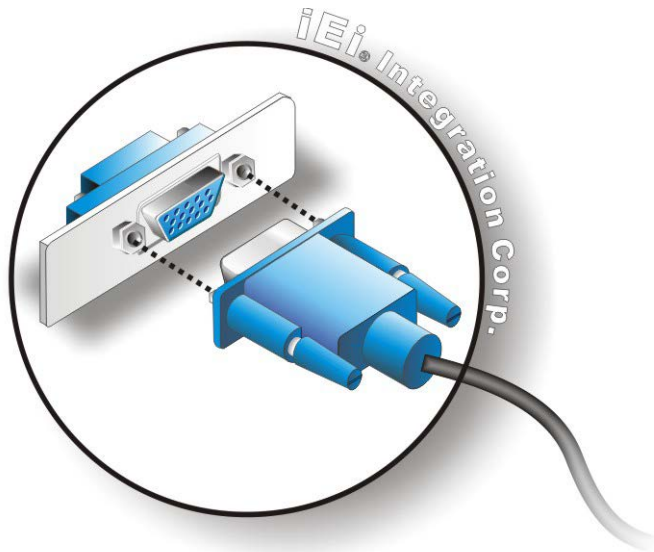

Figure 3-25: VGA Connector
Step 3: Insert the VGA connector Once the connectors are properly aligned with, insert the male connector from the VGA screen into the female connector on the TANK-870AI series. See **Figure 3-25**.